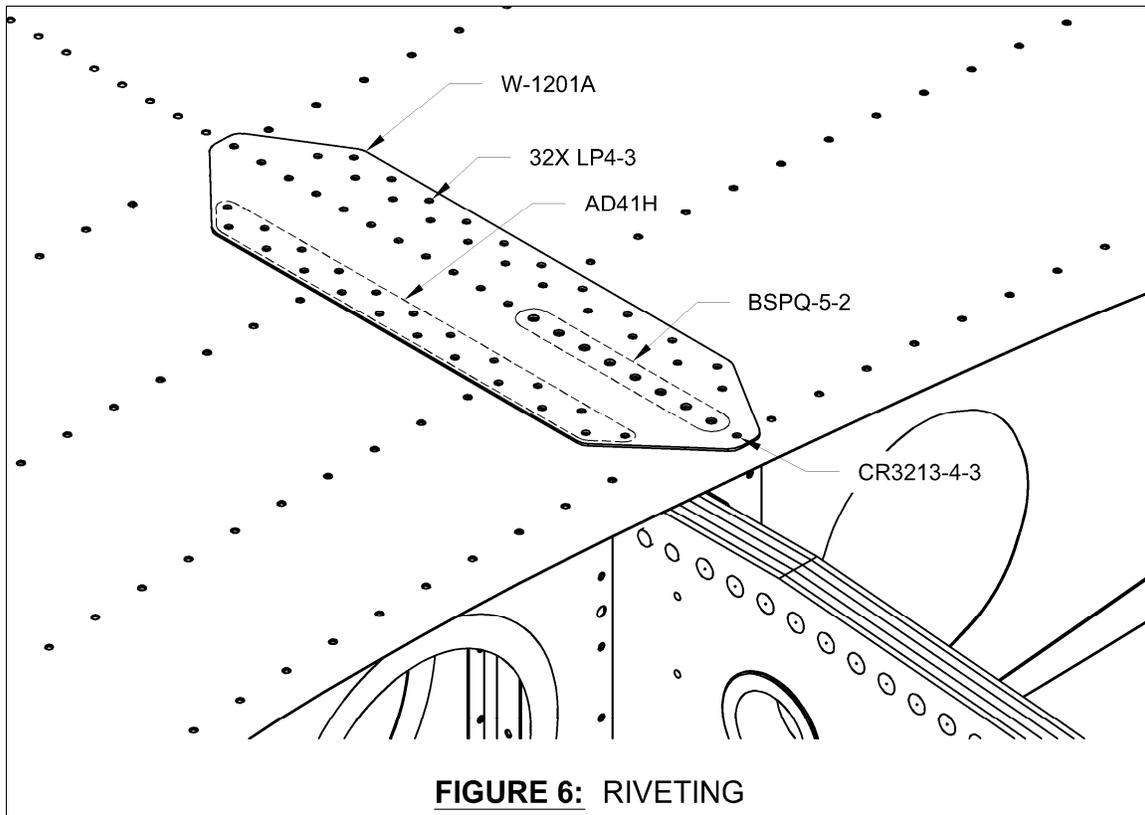

FIGURE 6: RIVETING
Step 12: Rivet the doubler to the skin and to the flange of the spar assembly using the rivets called out in Figure 6.